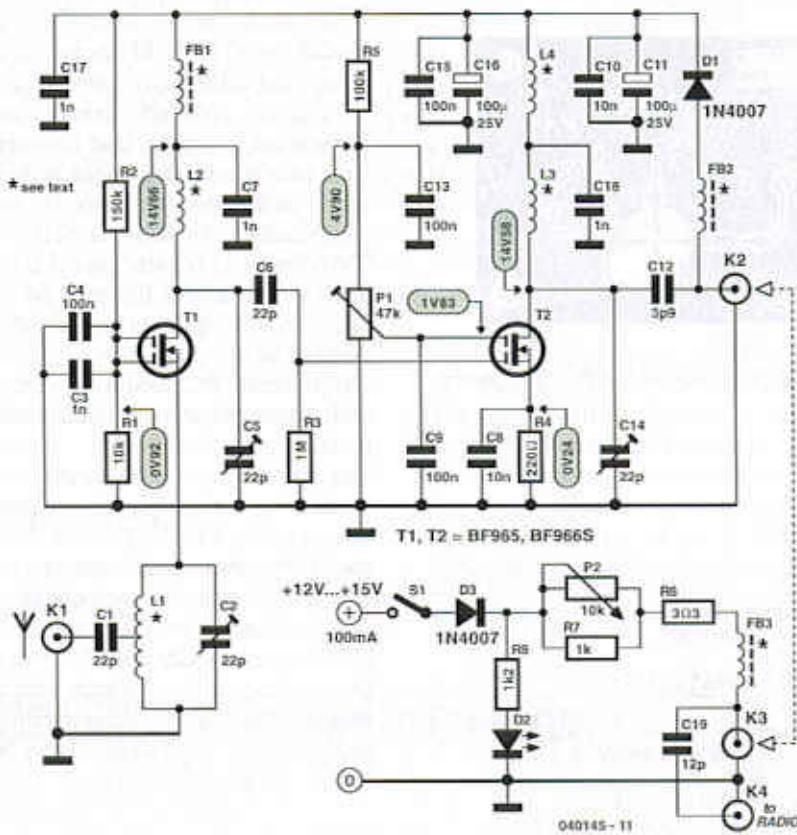

Figure 1. Circuit diagram of the two-stage preamplifier for VHF FM receivers.
The circuit diagram in Figure 1 reveals the secret: dual-gate MOSFETs in positions T1 and T2. The first of these, T1, is configured mainly for low noise and antenna matching and the second, T2, for high gain. Unusually, the antenna signal is applied to T1 via its source (S) terminal, which is convenient because unlike one of the gates (G1 and G2) it